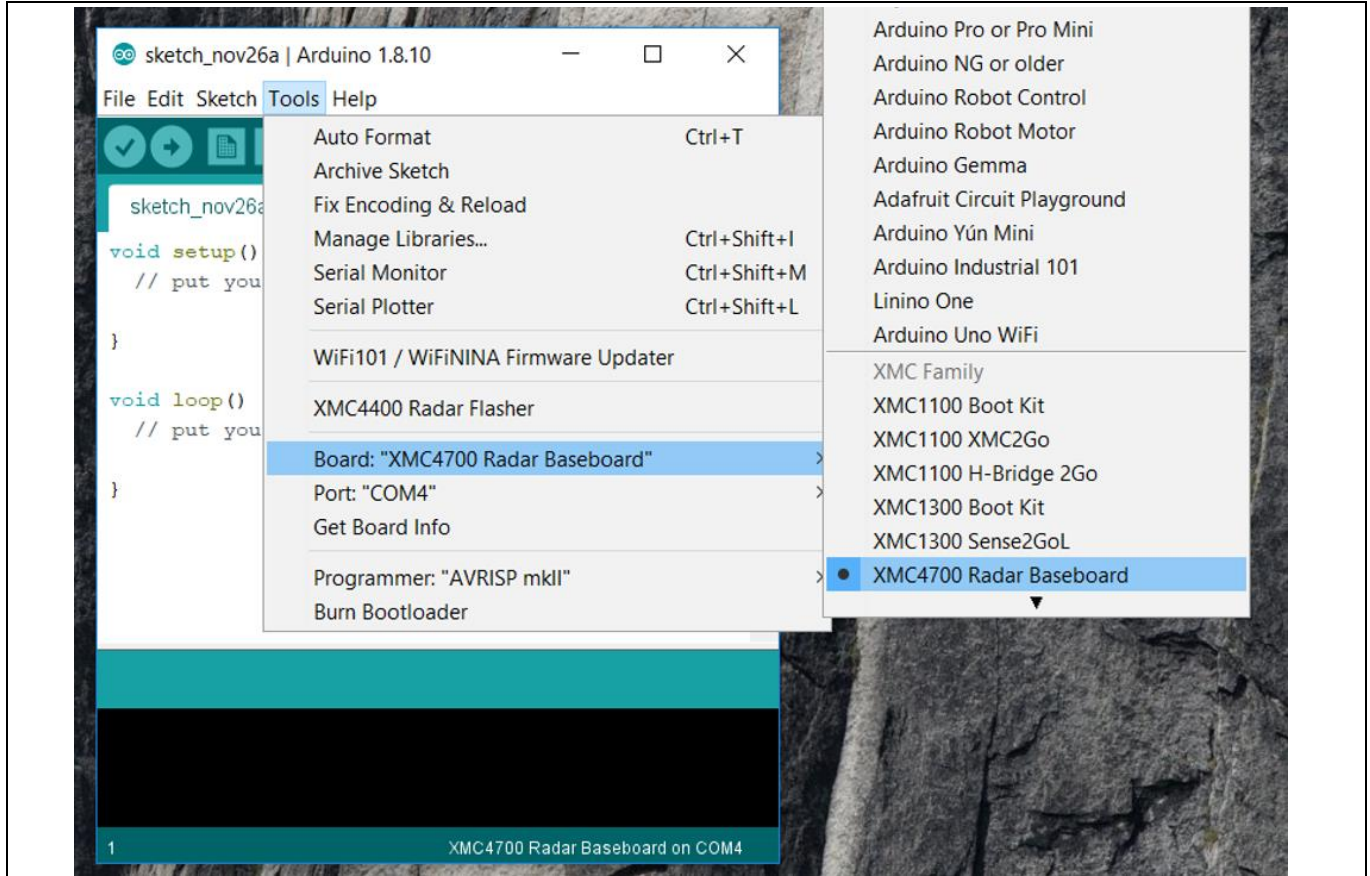

Figure 10 Selecting XMC baseboard
5. Once installation is completed, the XMC-based microcontroller boards can be found and selected under *Tools > Board* (Figure 10).